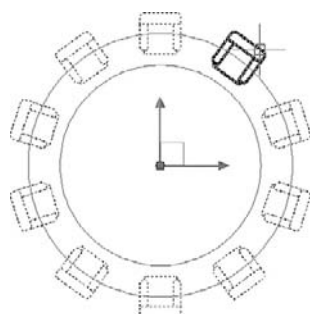

FIGURE 8.6
- **Edit Source.** This option allows you to edit and modify the source object. These changes are then reflected in the overall array. If you forget which object was the original source, it does not matter; you can pick any of the chairs and work on it. Execute the command, select the object, modify it, and when done, type in `ARRAYCLOSE`. Figure 8.6 shows Edit Source in progress.